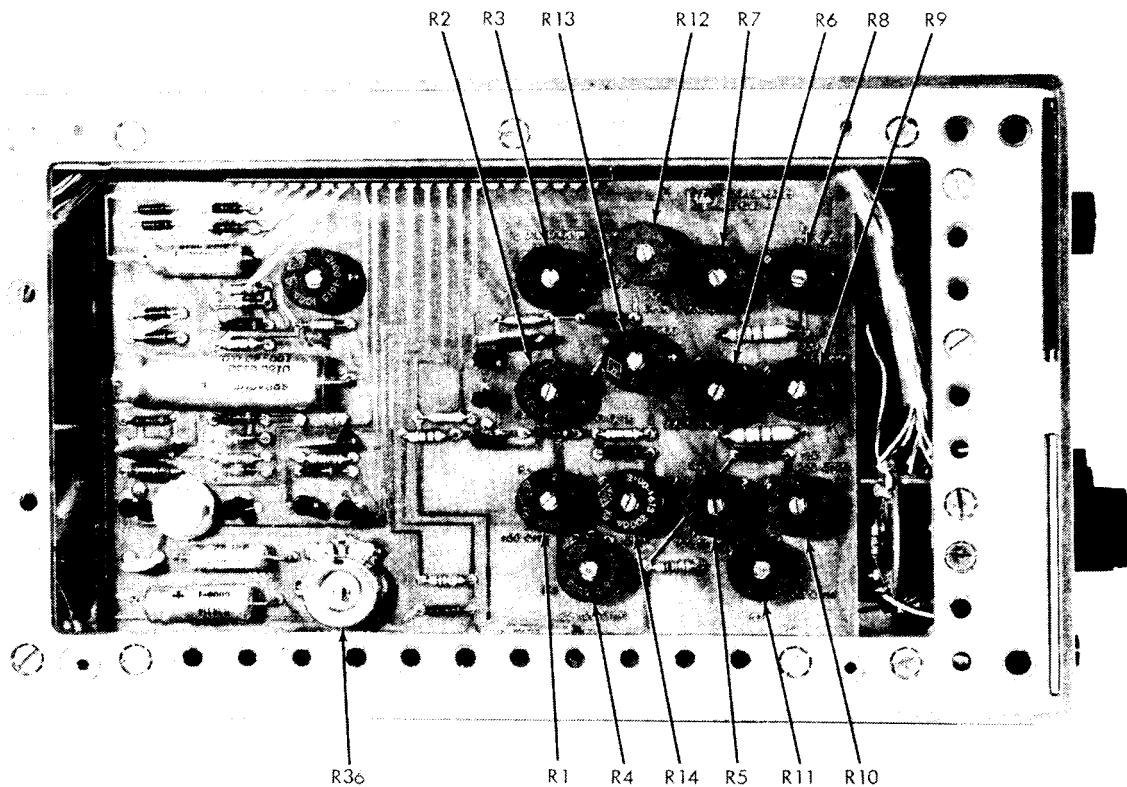

Figure 3. Left interior view, model 431C.
(8) Repeat (1) through (7) above with 100 ohm thermistor mount (A8) connected to the TI and with the TI MOUNT RES switch set to 100Ω.
(9) Reconnect the 200-ohm thermistor mount to the TI and set the MOUNT RES to 200Ω.
b. Adjustments. Adjust the appropriate potentiometer, R1 through R14 (fig. 3), to the mean value. No adjustment can be made on model 431B.
(7) Repeat the technique in (5) and (6) above for the remaining positions of the TI RANGE switch. If both a 200-ohm and 100-ohm thermistor mount is available, perform (1) through (6) above for both mounts.
b. Adjustments. Adjust R1 through R14 (fig. 3) as appropriate for model 431C. No adjustment can be made on model 431B.
(2) If the dc voltmeter does not indicate between -17.98 and -18.02 volts dc, perform **b** below.
(3) Vary the output of autotransformer (A1) between 105 and 125 volts ac. The dc voltmeter indication will remain within the limits specified in (2) above.
(4) Adjust the autotransformer for a 115-volt ac output.
b. Adjustments. Adjust R36 (fig. 3) for model 431C or R13 (fig. 2) for model 431B.